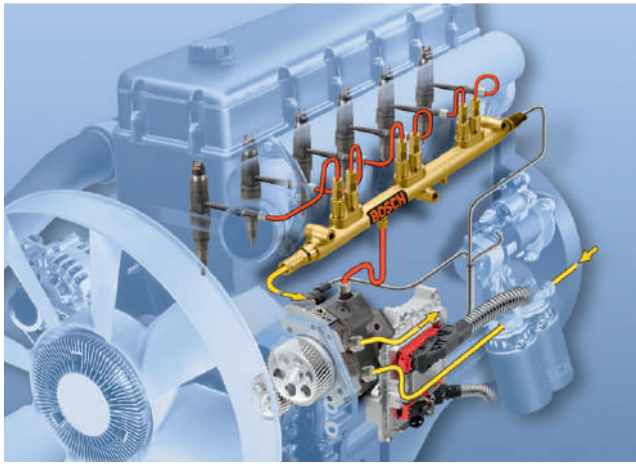

Figure 2.298 Common rail system. (Source: Bosch Media)
The development of diesel fuel systems is continuing, with many new electronic changes to the control and injection processes. One of the latest developments is the common rail (CR) system, which operates at very high injection pressures (Fig. 2.298). It also has piloted and phased injection to reduce noise and vibration.